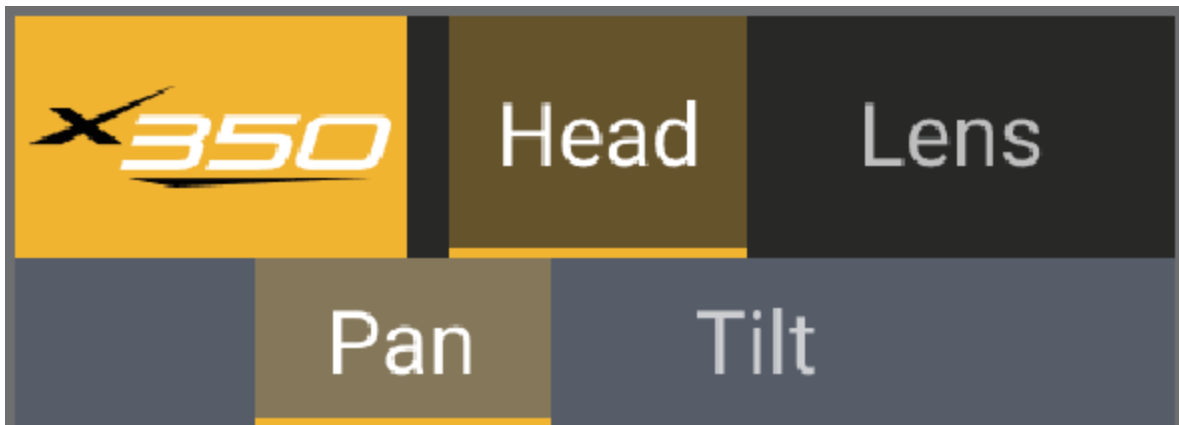

Figure 4.22 — The Head Tab, with the Pan Axis Tab Selected
- **Head tab** — Includes sub-tabs for the **Pan** and **Tilt** axes (Figure 4.22).